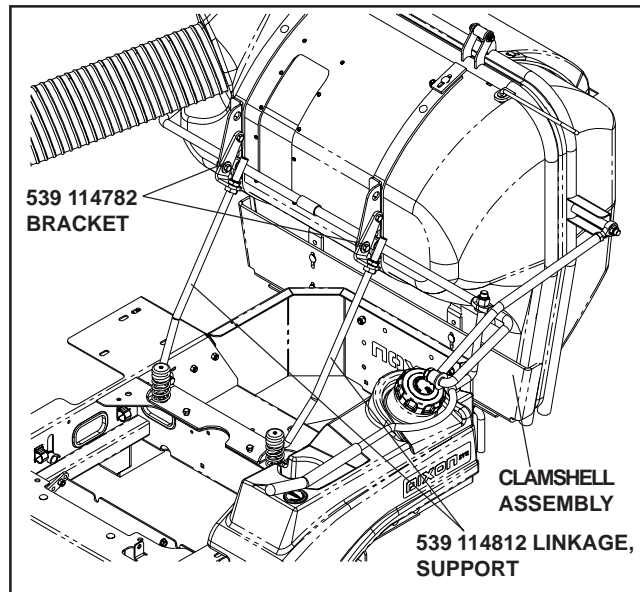

FIGURE 6
5. Attach two (539 114812) Linkage, Support to the clamshell assembly as shown in Figure 6.